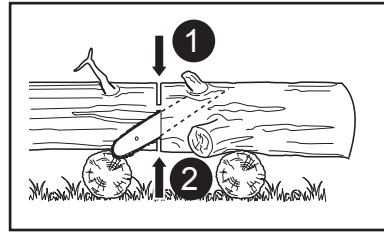

Fig. 12c
- When the log is supported on both ends (Fig. 12c), cut 1/3 the diameter from the top (overbuck). Then make the finished cut by underbucking the lower 2/3 to meet the first cut.